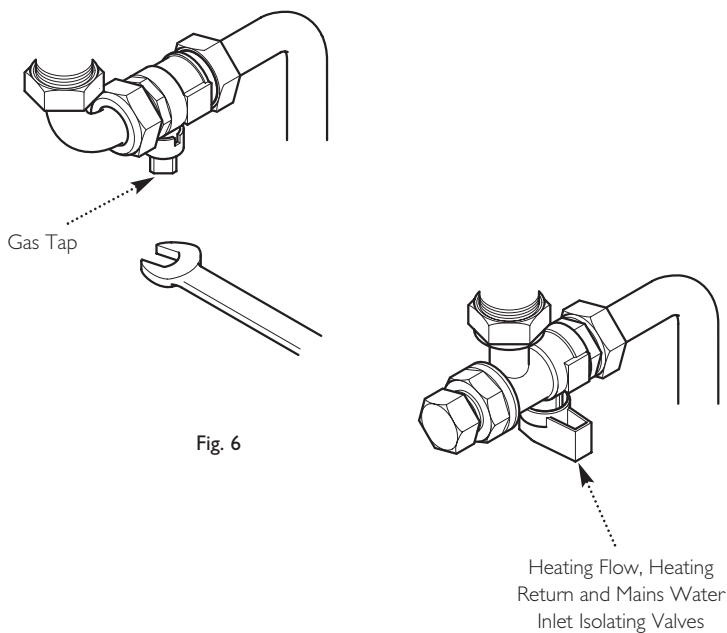

Fig. 6
Turn off the gas supply and call your gas supplier immediately. It is possible to isolate the boiler at the isolating valve (Fig. 6).
1. Using a suitable open ended spanner, turn the square nut on the gas tap through 90° (1/4 turn) to isolate the gas supply at the boiler (Fig. 6).
3. The water isolating valves are positioned under the boiler and can be closed by turning their taps to the right towards the wall (Fig. 6).